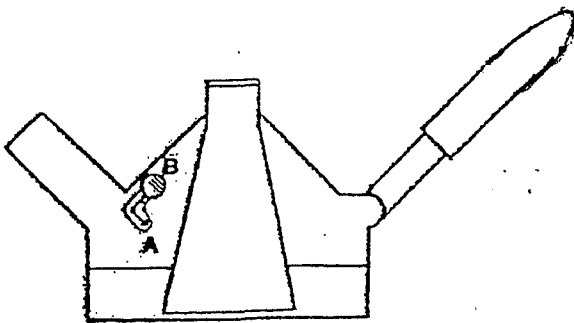

Fig 1 Unlocked
2. Unlock Millennium Fittings by moving the red safety lock nut along the slot from position A into position B. Whilst holding the nut in position B pull back the red handle (see Fig 1). The Millennium Fitting is now in the unlocked position ready for fitting.